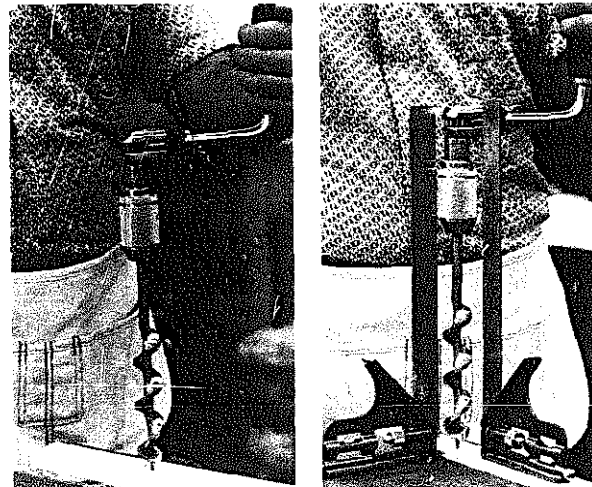

Fig. 10-33 Boring a vertical hole.
- d. Place the point of the bit on the center mark. Hold the brace so that the bit is at right angles to the surface to be bored. See A, figure 10-33. Test the bit for squareness with a try square from two positions 90 degrees apart. See B, figure 10-33.